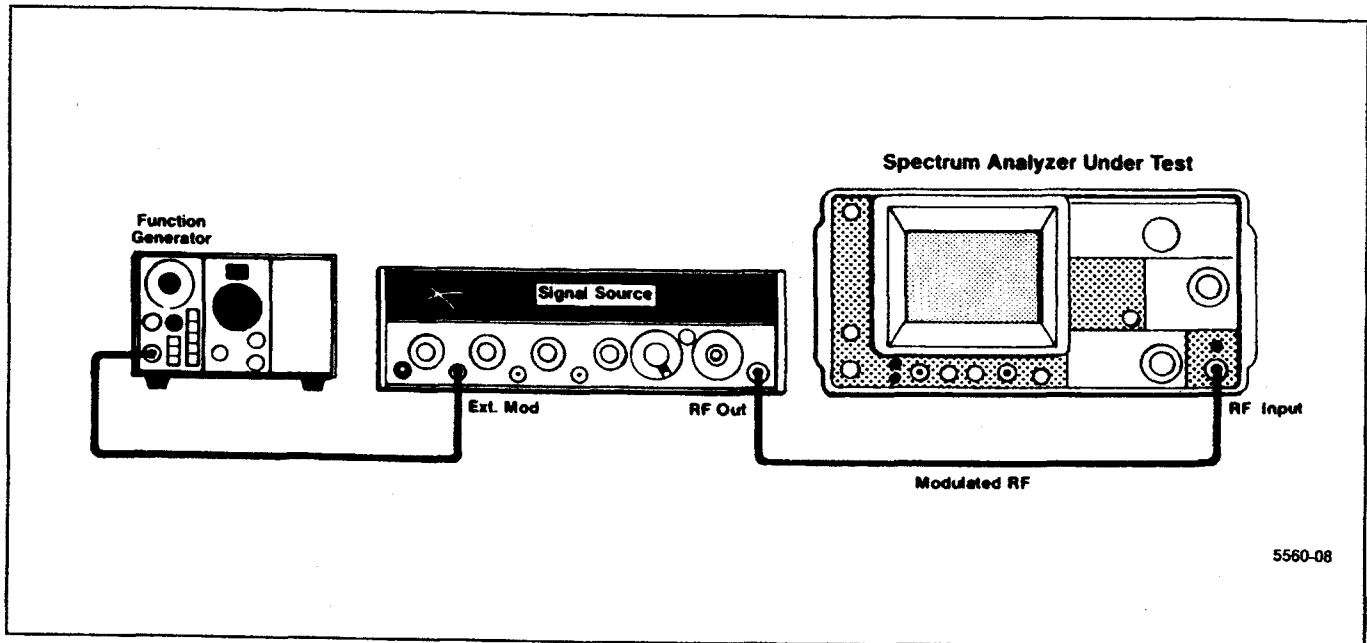

Figure 4-20. Test equipment setup for checking internal trigger characteristics.
a. Connect the test equipment as shown in Figure 4-20.